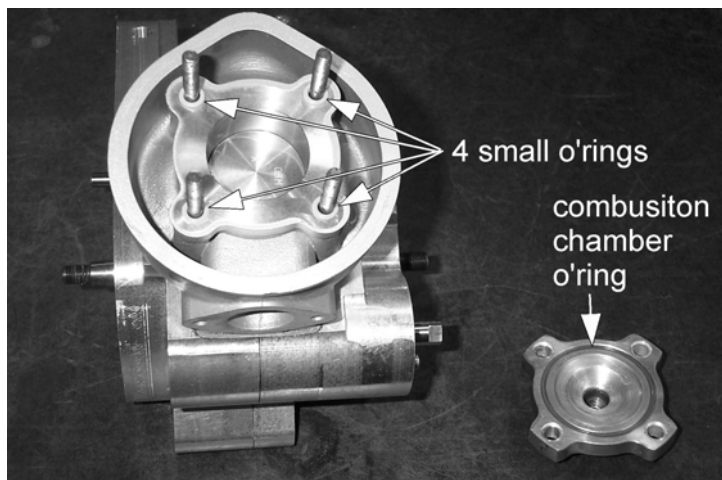

Figure 30
24. Install the cylinder studs and o'rings as shown in figure 30.